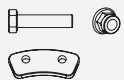

**Figure 8b**
- Place the discharge chute facing it forward over the chute crank flange. (See **Figure 8b**)